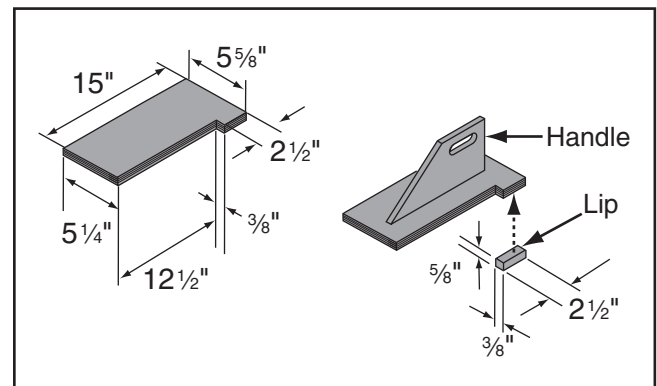

Figure 81. Push block dimensions and construction.
3. Using the $\frac{3}{4}$ " material you used in the previous steps, cut out pieces for the push block per the dimensions shown in **Figure 81**; for the handle, cut a piece 10" long by 5"–9" high and shape it as desired to fit your hand.